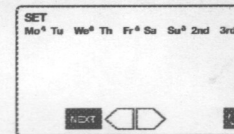

Figure 7
- When the watering days are chosen, push NEXT button to advance to set watering duration. (See Figure 7)